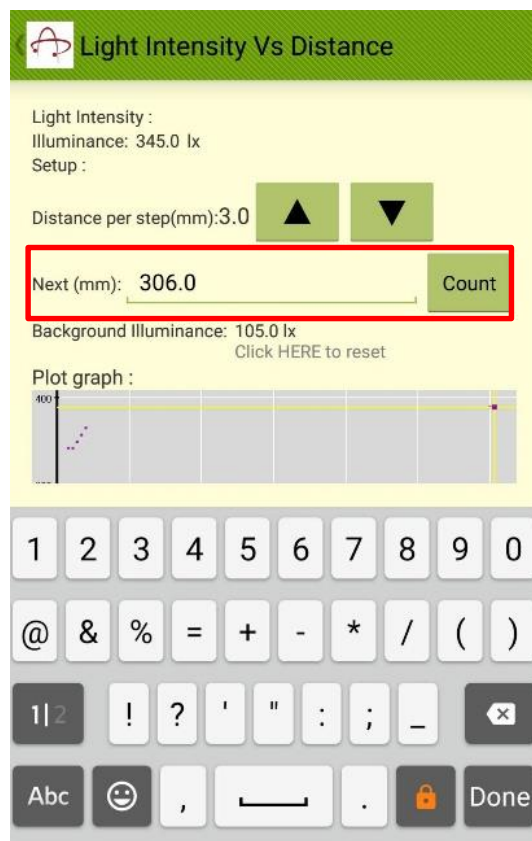

Fig 5.22
- If you are not taking measurements at every fixed distance, or if you are taking measurement at large distance, you can type the desired distance directly in the field “Next” (Fig 5.22), and press “Count” to record data at that distance. In the example below, 300.0mm is recorded after 20.0mm.